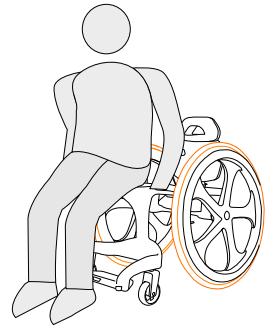

Figure 4.2
- Transfer to the edge of the wheelchair seat, or completely to the back of the wheelchair seat if capable. (Fig 4.2)